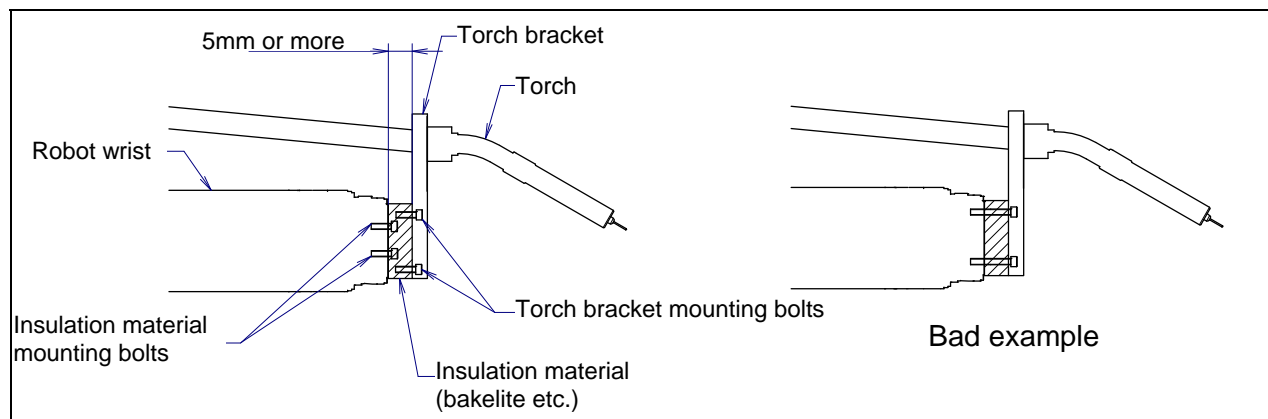

Fig. C.1 Insulation at the wrist
- Insulate the end effector mounting surface. Insulation material which is inserted between the end effector mounting surface and the welding torch bracket must be different, and bolt them separately referring to Fig. C.1.